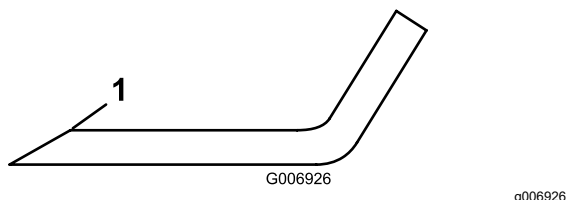

Figure 102
5. Inspect the cutting edges of all blades. Sharpen the cutting edges if they are dull or nicked. Sharpen only the top of the cutting edge and maintain the original cutting angle to make sure that it is sharp (Figure 102).
6. If dull or nicked, sharpen only the top cutting edge while maintaining the original cutting angle (Figure 102).